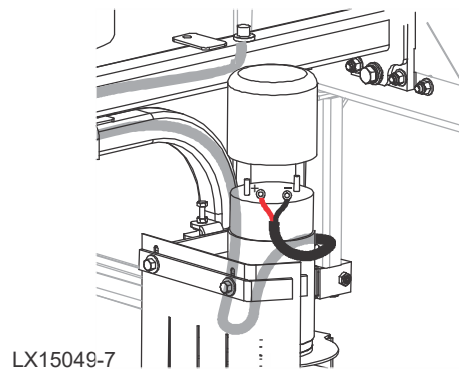

FIG. 1-6
6. Place the strobe light ring terminals over the motor terminals -- **red to positive, black to negative.** See Fig. 1-6.